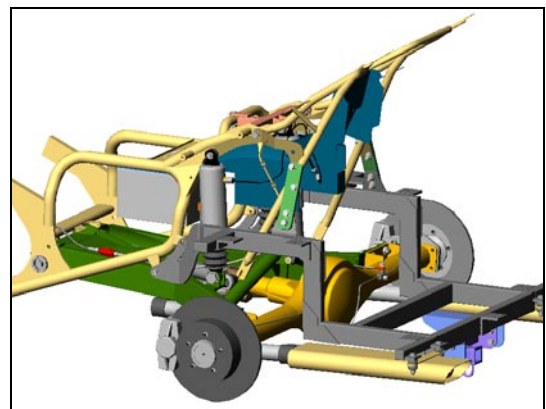

Figure 52
- d. Rotate trunk stay (with attached parts) upward as shown. Figure 52. This is to allow the trike body to pass.